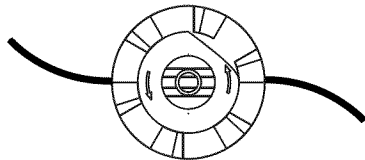

Fig. 20
3. Remove any old line from the inner reel or obstructions from the outer spool. (Fig. 20)